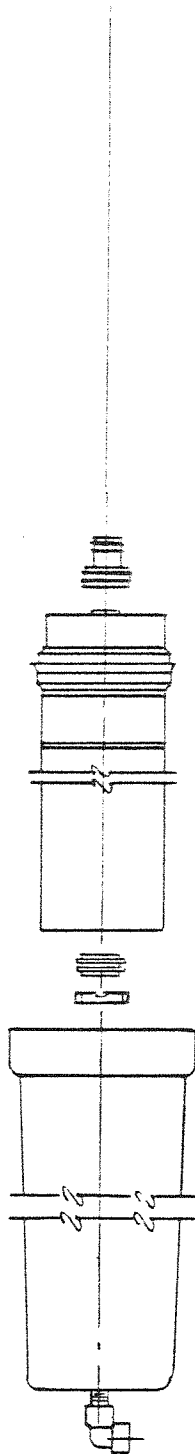

Figure 7
NOTE: Orient the disk in the bowl so that the slots are upward. (See Figure 7).
Connect black 1/4" x 3/8" polyurethane tubing from Polishing Station (PS) connection kit (P/N 90789) or equivalent to alternate valve, and clamp in place. Insert into bulk-head fitting in WaterPro PS. See Figure 7.